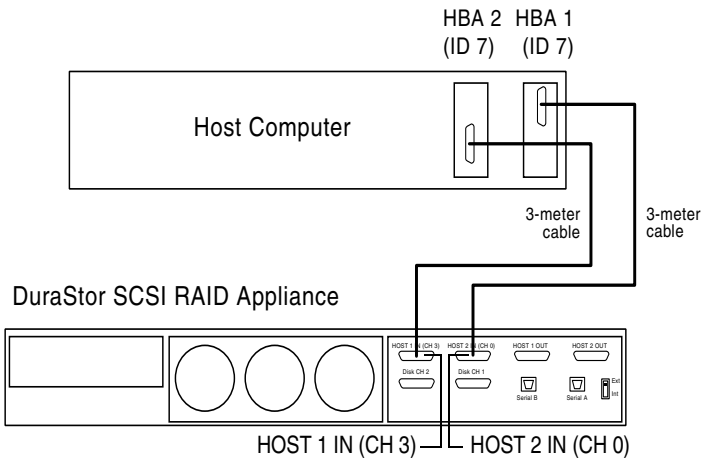

Figure 3-19 Active-passive Dual-port Cabling Diagram
- 1 Connect the SCSI data cables as shown in Figure 3-19.